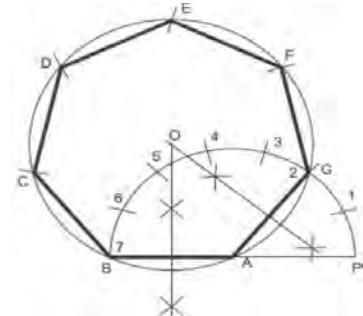

Fig.6.25: Drawing a polygon
**Solution: Method-2 (Fig.6.25)**